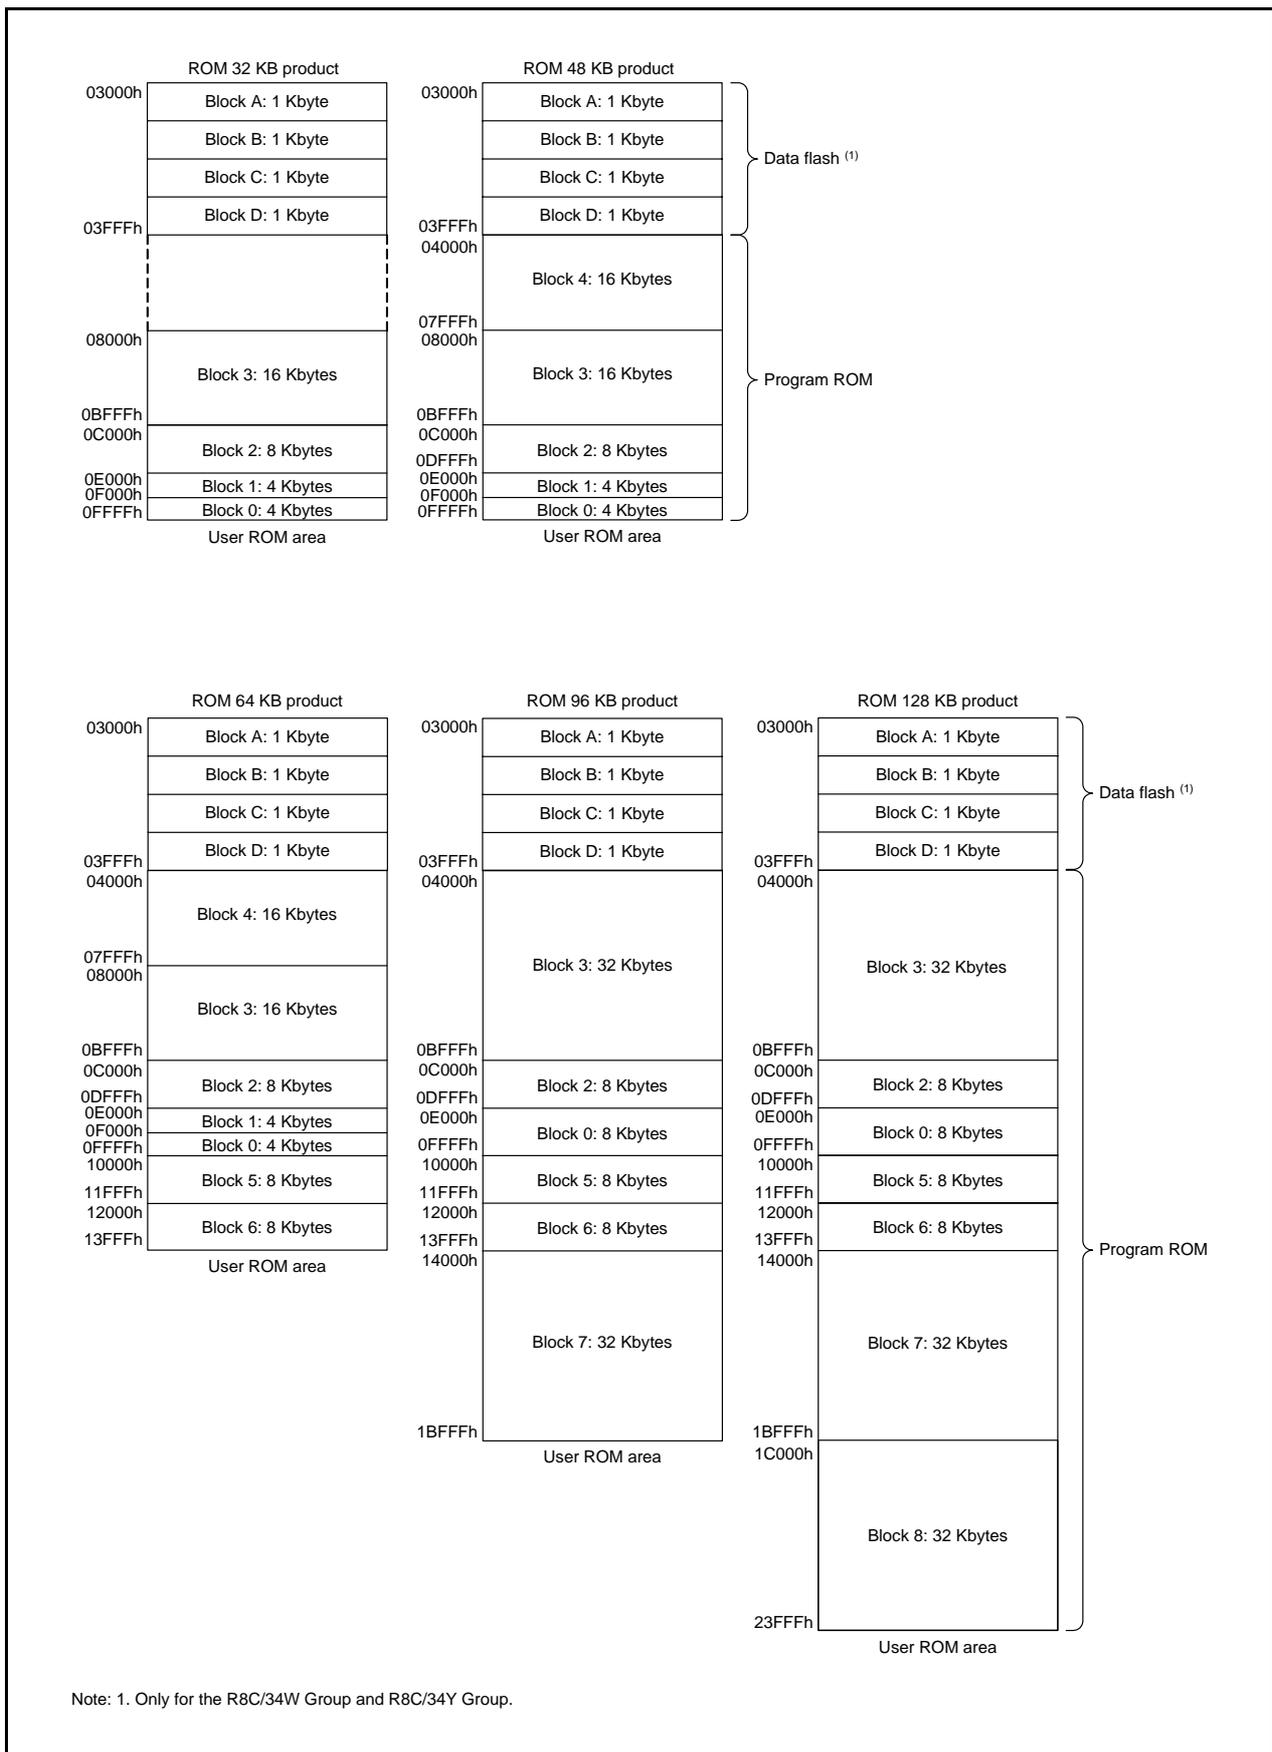

Figure 28.1 Flash Memory Block Diagram of this MCU
- The number of blocks and block division vary with the MCU. Refer to **Figure 28.1 Flash Memory Block Diagram of this MCU** for details.
Figure 28.1 shows the Flash Memory Block Diagram of this MCU.